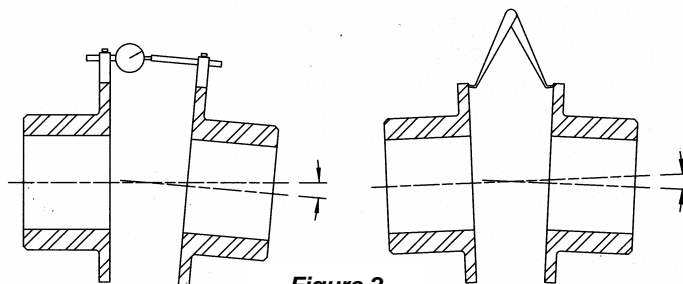

Figure 2
D. Angular Alignment. Rigidly mount a dial indicator on one hub or shaft, reading the face of the other hub flange, as shown in Figure 2. Rotate both shafts together making sure the shaft axial spacing remains constant. Adjust the equipment by shimming and/or moving so that the indicator reading is within the values shown in Table 1.